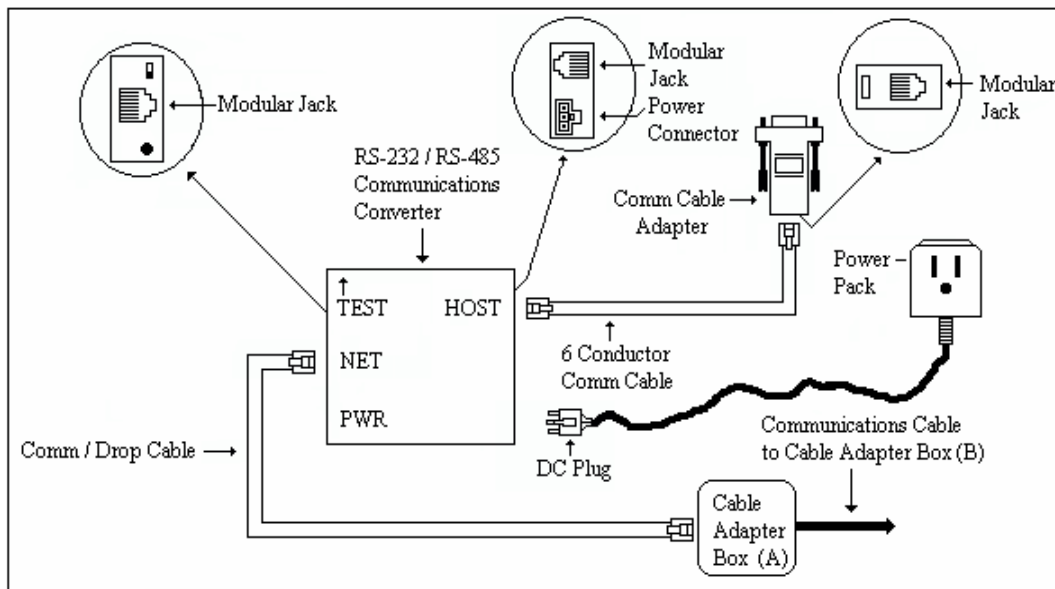

Figure 2
Plug one end of the 6 Conductor Comm cable into the modular jack on the Comm Cable Adapter and plug the other end into the Host modular jack on the RS-232 / RS-485 Communications Converter. Mount Cable Adapter Box (A) to the wall next to the communications cable, (which should be within 10 feet of the PC) and remove the top cover. Plug one end of the Comm / Drop cable into the Network modular jack on the Converter and plug the other end into the modular jack on Cable Adapter Box (A). Plug the DC Plug from the power pack into the Power Connector on the Converter. Plug the power pack into a 120 VAC outlet (Figure 2).